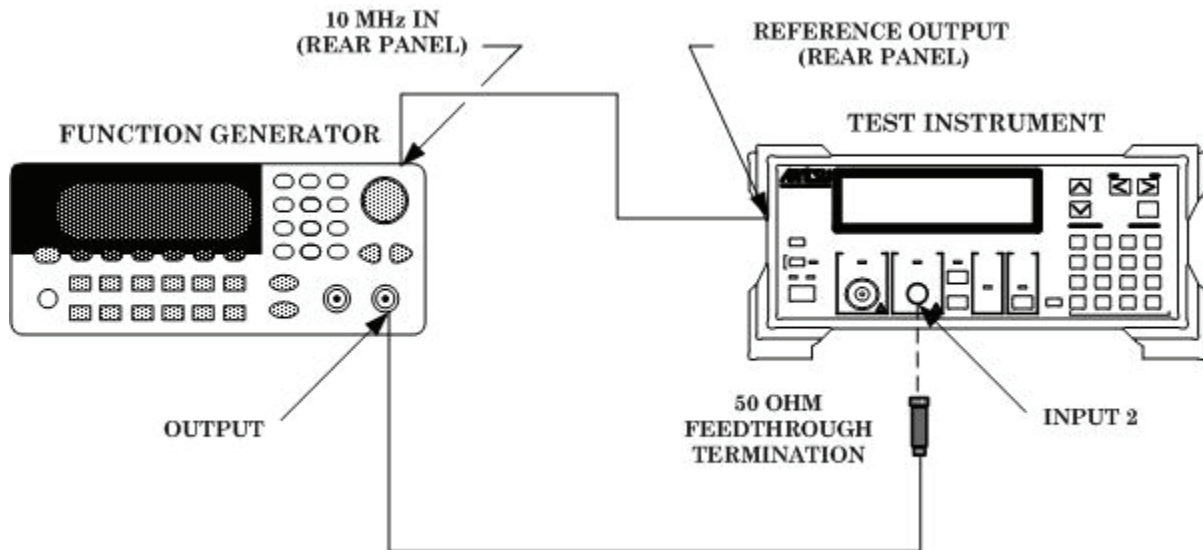

Figure 1. Input 2 sensitivity (1M  $\Omega$ ).
(1) Connect equipment as shown in figure 1.